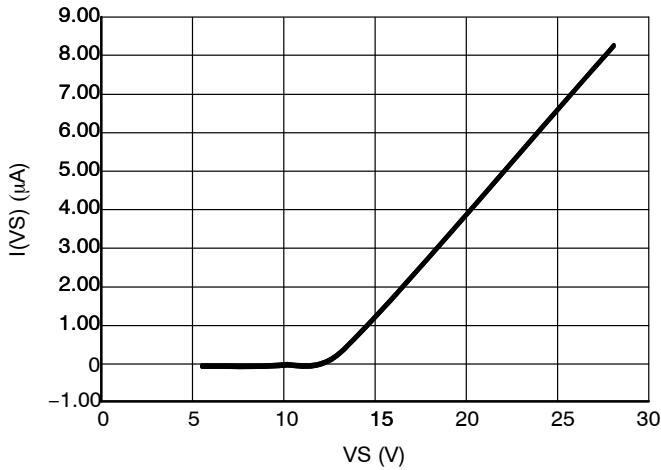

Figure 12. I(VS) Standby Current vs. VS at 25°C
5. Refer to Figures 12 and 17 for the VS standby current behavior.